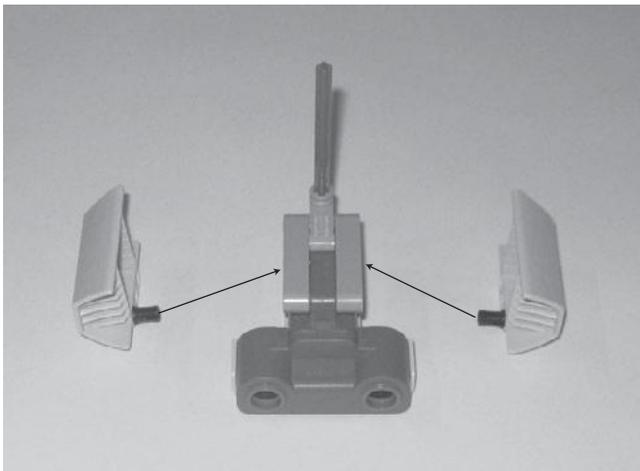

Figure 12.20
Step 3: Attach a connector peg with friction to each of the two design shells, as shown in Figure 12.20, and then use the connector pegs with friction to connect the two design shells to the ultrasonic sensor.